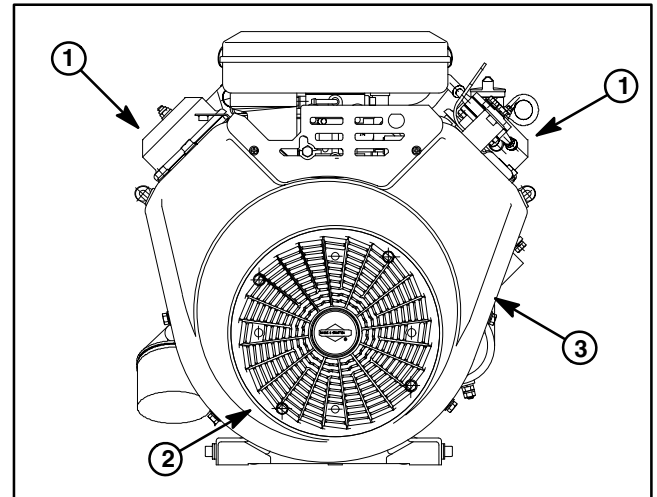

Figure 1
4. Clean rotating screen and blower housing of dirt and debris (Fig. 1).